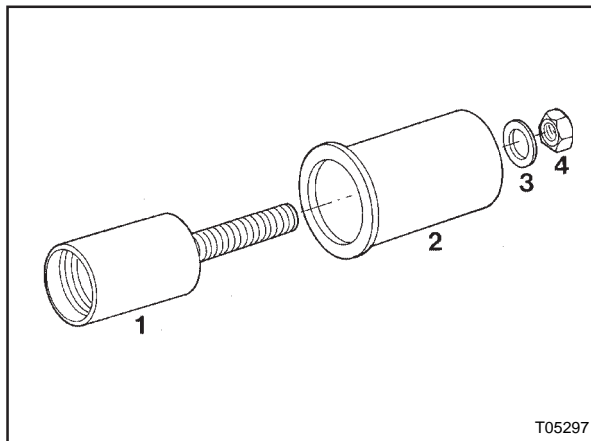

Figure 8 : Tool set VH No. 10678700 to install hub unit
2. Use the tool set from Figure 8 to install the hub unit.